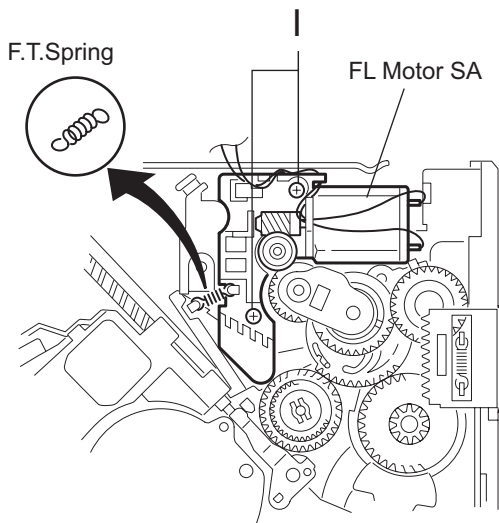

Fig.22
3.2.11 Removing the FL motor S.A. (See Fig.22, 23)